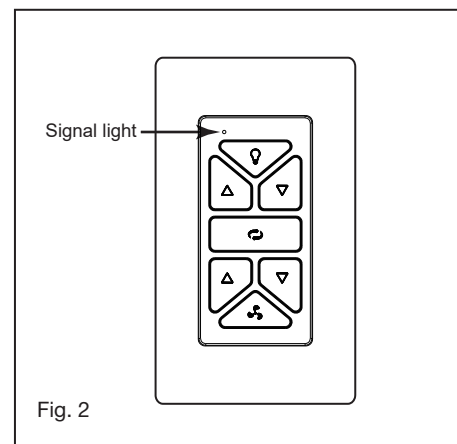

Fig. 2
2. Make wire connections from the fan to the receiver unit. For this step use the bundle of 5 wires on the receiver. (Fig. 2)
Remove the screws and take out the glass shade form the light cover (Fig. 2), then attach the metal Plate to the light cover B and light cover A with the screws provided. (Fig. 3)
- 2 Seat the cradle A into the wall plate. (Fig. 2)
- 6 Signal light (Fig. 2)